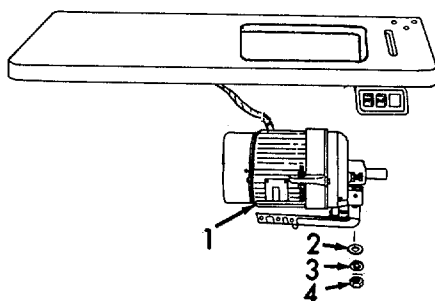

Figure 6-84. Electric Motor, Installation.
- (1) Inspect for loose, missing, or damaged hardware.
- (2) Inspect for damaged or deteriorated electrical wiring.
- (3) Inspect for damaged switch box.
- (4) Inspect for damaged motor.
e. Installation (Refer to Figure 6-84).